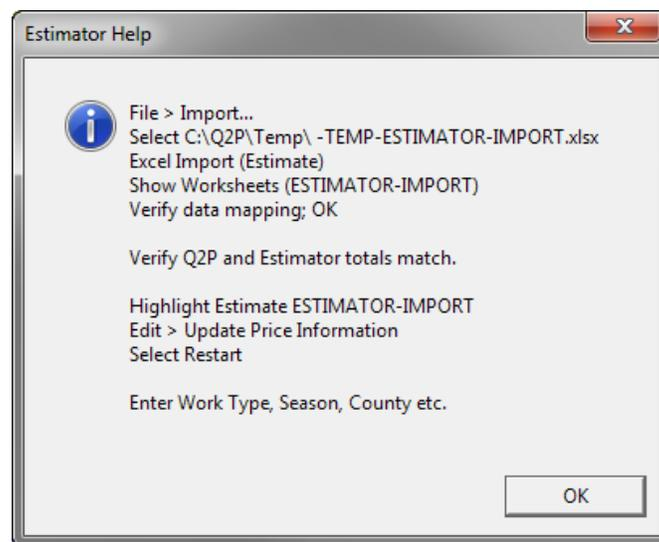

Figure 10.1 Importing Q2P into Estimator help.
*This command is used to transfer items and quantities into Estimator for obtaining the bid regression prices. It is **NOT** used to create a complete Estimator file for use with Trns•port/AWP Preconstruction. As such, all quantities will be imported into Estimator under one category (10).*
2. Once the import file is created, follow the instructions in the “Estimator Help” dialog box as shown in Figure 10.1.